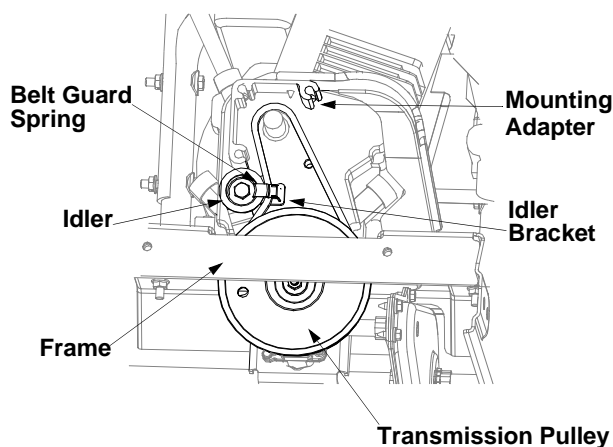

Figure 17
- Insert new belt between the frame and the transmission pulley. See Figure 17. (You may have to slightly pry the frame away from the pulley with a screwdriver for this.)
- Place the belt on the idler pulley and place belt guard spring back into the slot on the idler bracket. See Figure 17.